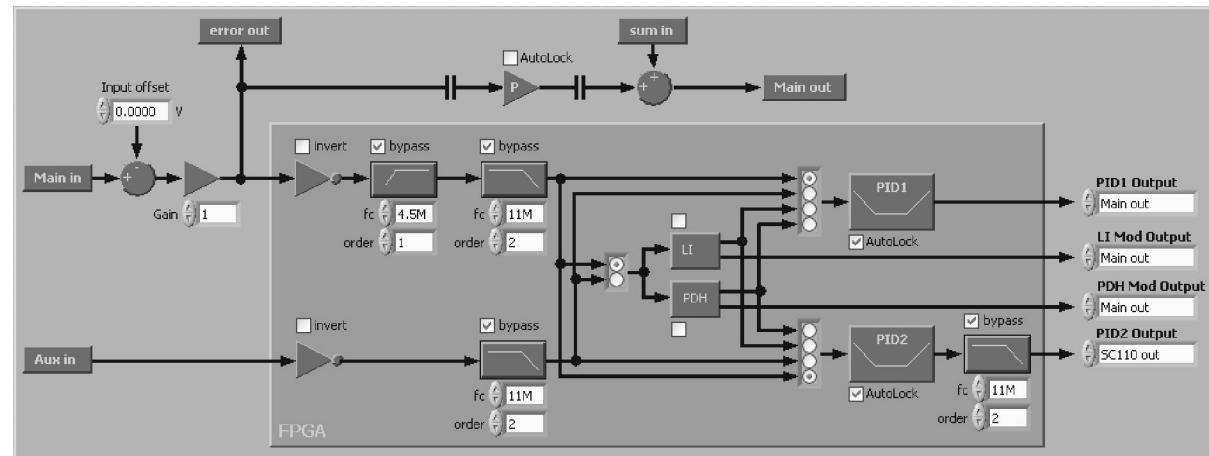

Figure 36 Graphical Overview of the Signal Path through the Controller (System Function)
12. The System function (Figure 36) shows a block diagram of the control loop. Here several options for the analog gain and offset as well as different filters for the <Main in> signal path can be set. Their function and default setting are given in the following table. The default values are a good starting point and can later be optimized for the specific application by the user. Please refer to Paragraph 9 for further information.